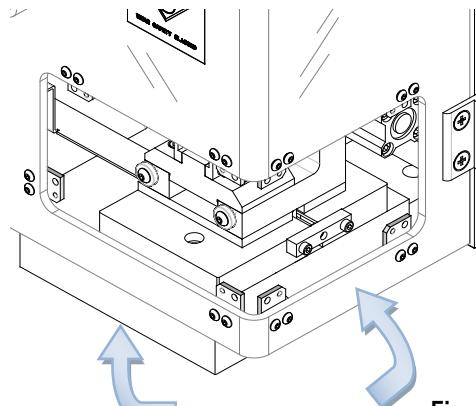

Figure 4-6
- Remove the Front and Right Guard and set aside. See Figure 4-6.